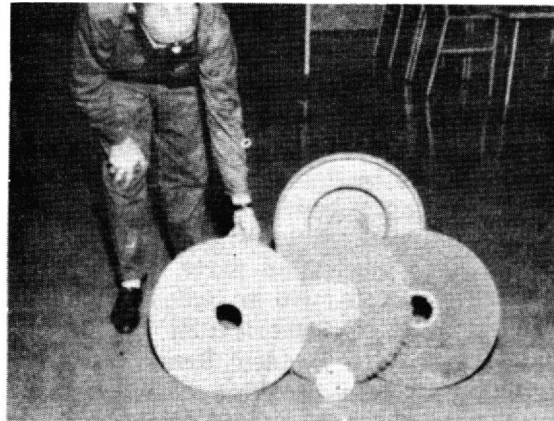

Figure 14. Attachments for Battery Powered Floor Machine.
(2) *Attachments.* Brush consists of cast aluminum or laminated wood disk to which fibers are attached, fig. 14. Attachments are connected to drive shaft by cast iron or pressed steel collar with lugs. The machine should be turned on its side while attachments are being installed. Make certain brush has been turned on as far as possible before motor is started.